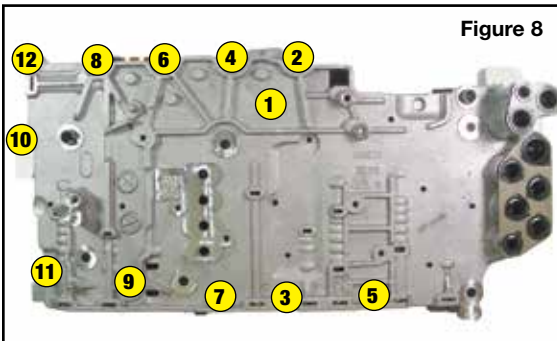

Figure 8
- Remove the 12, 7mm head bolts (Figure 8).
- Install the 12, 7mm head bolts and torque to 71 in-lbs. in sequence shown (Figure 8).